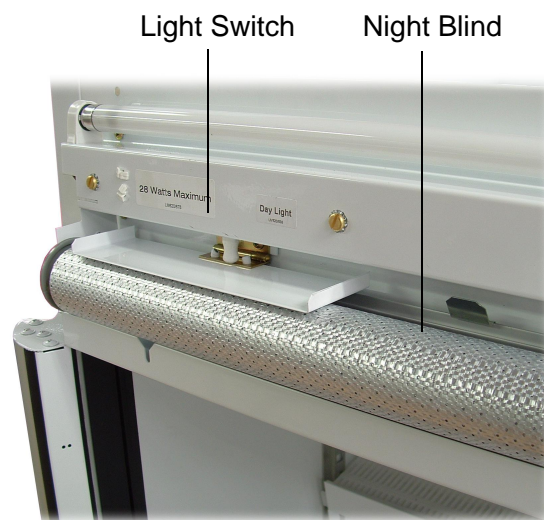

Figure 12: Night Blind
6. When refitting the blind, ensure that the light switch pressure plate is sitting on top of the blind and the blind is securely clipped into both retaining clips (see Figure 12 below).